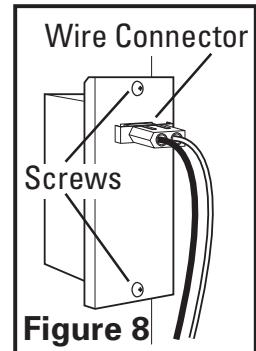
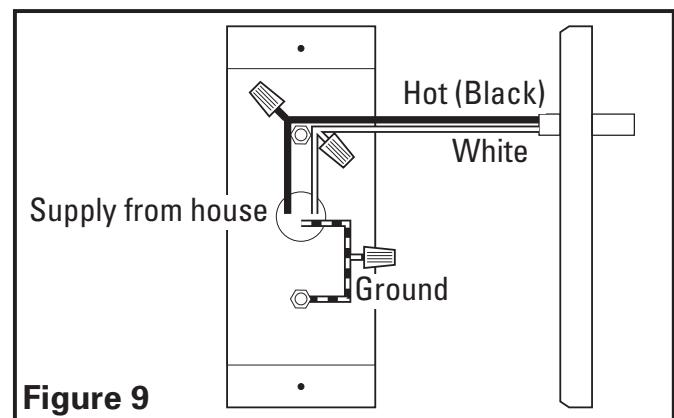

Figure 8
Figure 9
1. Remove the two wire compartment cover screws to gain access into the wire compartment (Figure 8). Connect the white wire from the range hood to the white wire from the supply, and the black wire from the range hood to the black wire of the supply. Connect the ground wire from the home (green or bare) to the ground wire (green) from the hood. Use approved methods for all connections (Figure 9).
2. Replace the wire compartment cover and tighten screws. Make sure all wiring is securely contained within the wire compartment. If the quick connect wire connector was removed from the receptacle, replace. The connector will only fit one way into the receptacle (Figure 8).